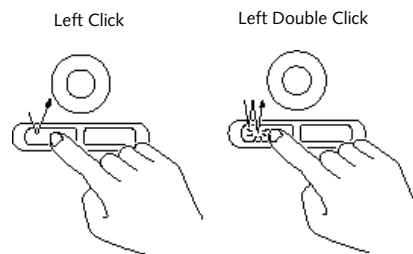

Figure 2-7 Clipping
**Clicking means pushing and releasing a button. To left-click move the screen cursor to the item you wish to select, press the left pointing device button once, and then immediately release it. To right-click, move the mouse cursor to the item you wish to select, press the right pointing device button once, and then immediately release it. (Figure 2-7.)**